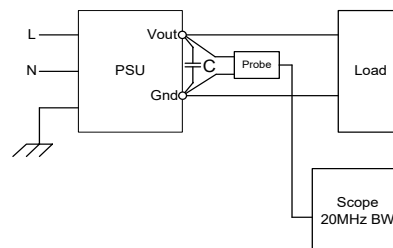

Figure 19. Output Ripple Test Setup
- Outputs bypassed at the point of measurement with a parallel combination of 10μF tantalum capacitor in parallel with 0.1μF ceramic capacitors, referring the setup in Figure 19.